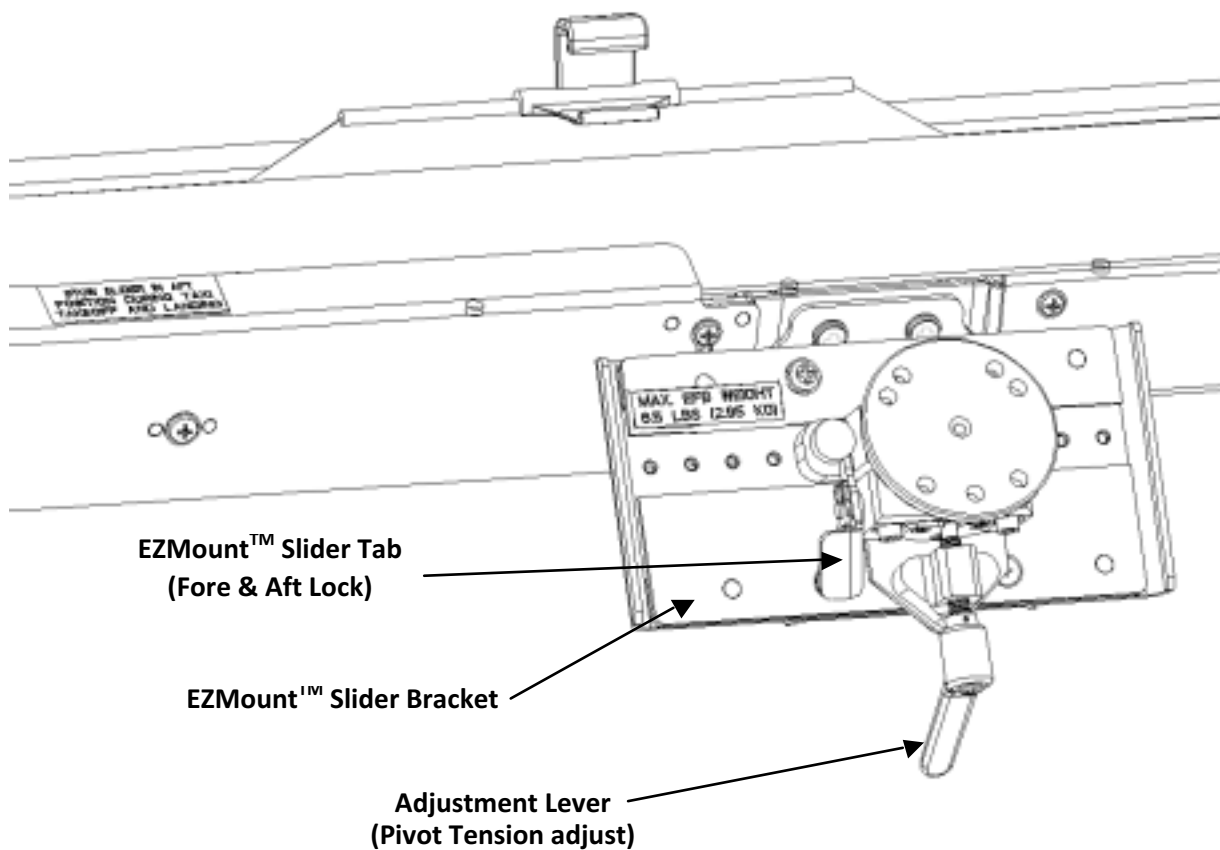

FIGURE 2
- » The EZMount™ Slider is attached to the mounting bracket (see Figure 2)